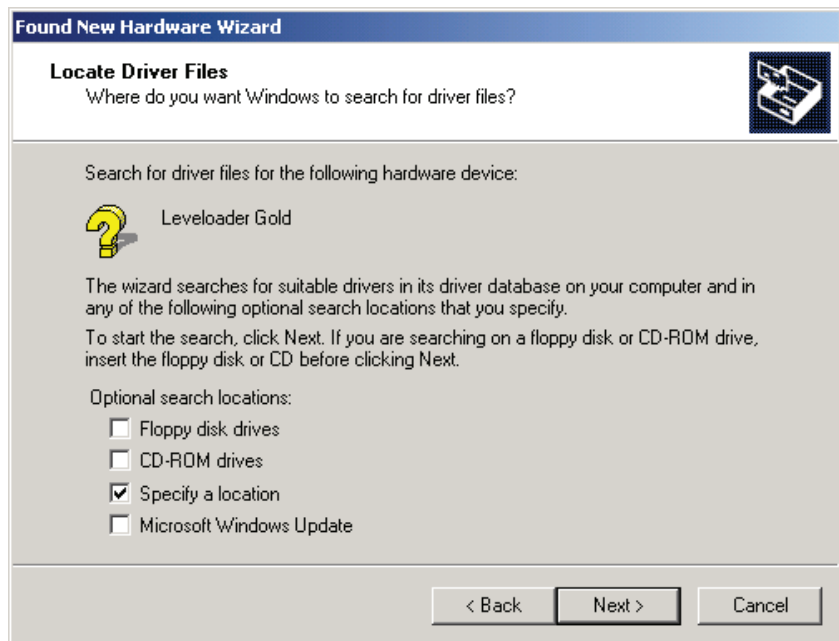

Figure 3-5 Found New Hardware Wizard
- 4) In the 'Locate Driver File' window (Figure 3-5), select 'Specify a location' and click 'Next'.